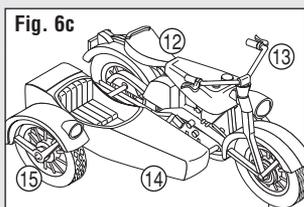

Fig. 6c
- Glue Handlebars ⑬ to Motorcycle Body ⑫. Glue Sidecar Wheel ⑮ onto spoke of Sidecar ⑭. When glue is set, glue Sidecar Assembly to Motorcycle 3. (Fig. 6c)